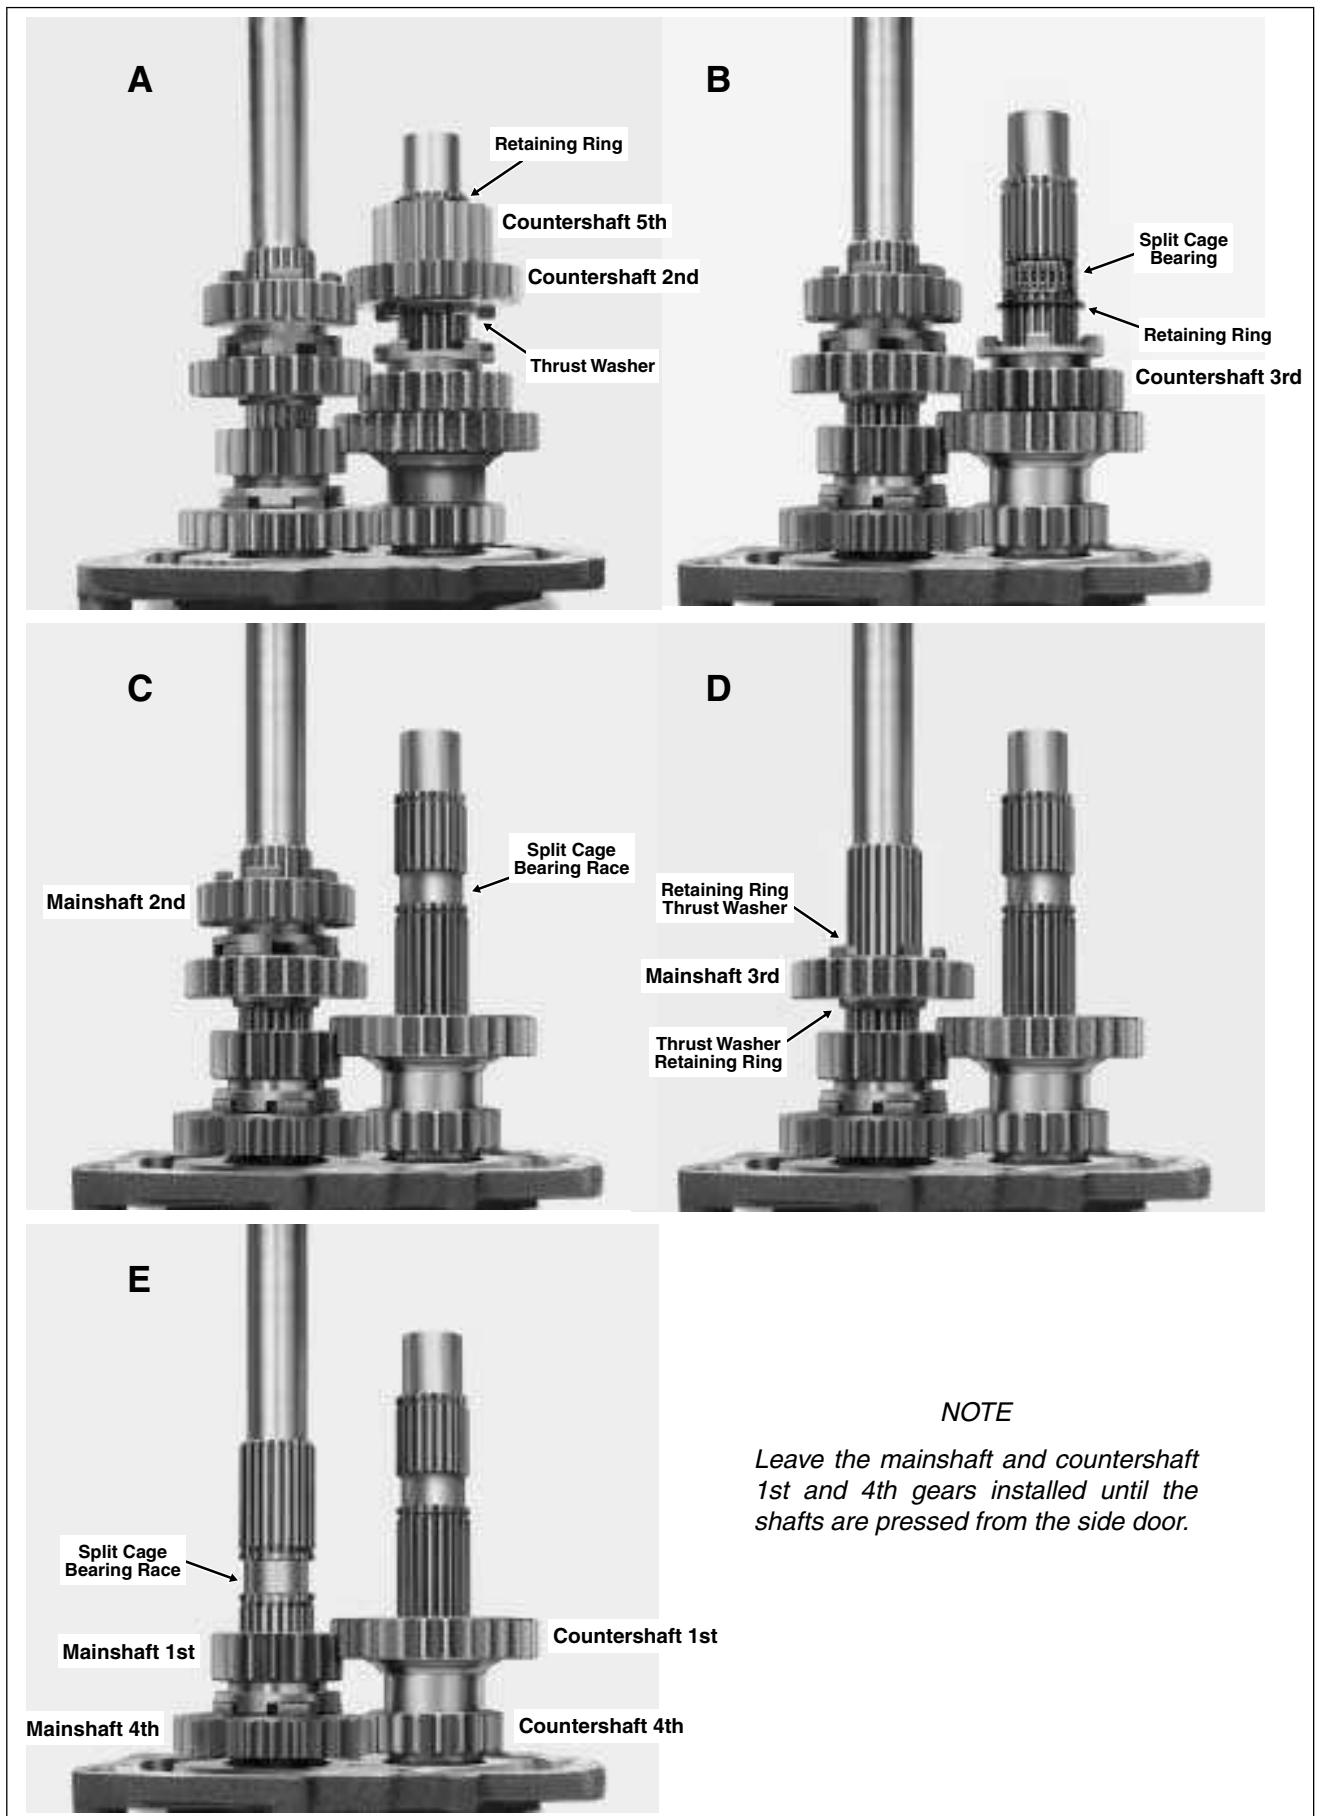

Figure 7-21. Mainshaft/Countershaft Disassembly
2. See A in *Figure 7-21*. Working from the end of the countershaft toward the side door, remove the retaining ring from the countershaft.
5. See B in *Figure 7-21*. Gently pull apart the split cage bearing and remove.
7. See C in *Figure 7-21*. Moving to the mainshaft, remove the mainshaft 2nd gear.
8. See D in *Figure 7-21*. Remove the upper retaining ring and thrust washer.
11. See E in *Figure 7-21*. Gently pull apart the split cage bearing and remove.